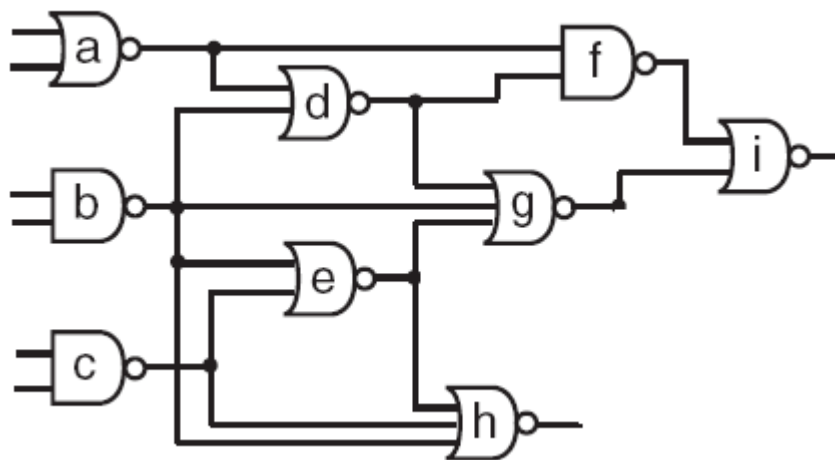

Figure 4B
- 4B. The circuit shown in **Figure 4B**, is designed using 65nm CMOS technology using low threshold transistors. Each gate has a delay of 5ps and a leakage current of 10nA. Given that a gate with high threshold transistors has a delay of 10ps and leakage of 1nA, optimally design the circuit with dual-threshold gates to minimize the leakage current without increasing the critical path delay. What is the percentage reduction in leakage power? What will be the leakage power reduction if a 30% increase in the critical path delay is allowed? Calculate.